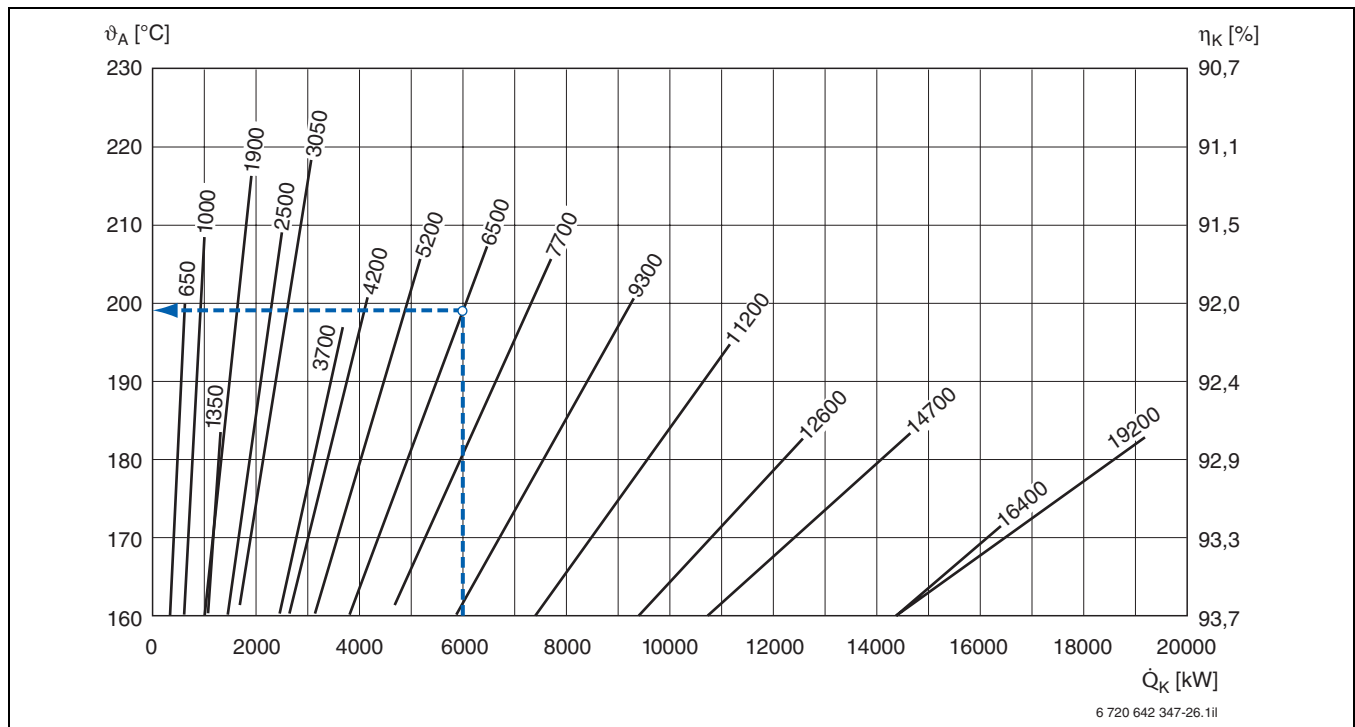

Fig. 30 Logano S825L flue gas temperatures subject to the boiler load
The flue gas temperature is the temperature measured inside the flue pipe, specifically at the boiler flue outlet. It depends on the boiler loads and the system temperature (→ Fig. 30 to Fig. 32). The minimum possible flue gas temperature should generally be used to calculate the chimney size. This will be approx. 7.5 K below the specified flue gas temperature, relative to an average boiler water temperature of 70 °C.
The flue gas temperature depends on the average boiler water temperature. The flue gas temperatures in the graphs in Fig. 30 to Fig. 32 are relative to a temperature pair of 80/60 °C in accordance with EN 303, i.e. the average boiler water temperature is 70 °C (for conversion to other temperature pairs → Tab. 32).
- Flue gas temperature read off $\vartheta_A = 198$ °C (→ Fig. 30)